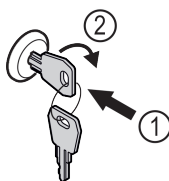

Fig. 166
- ▶ Insert the key. Fig. 166 (1)
- ▶ Turn the key clockwise by 90°. Fig. 166 (2)